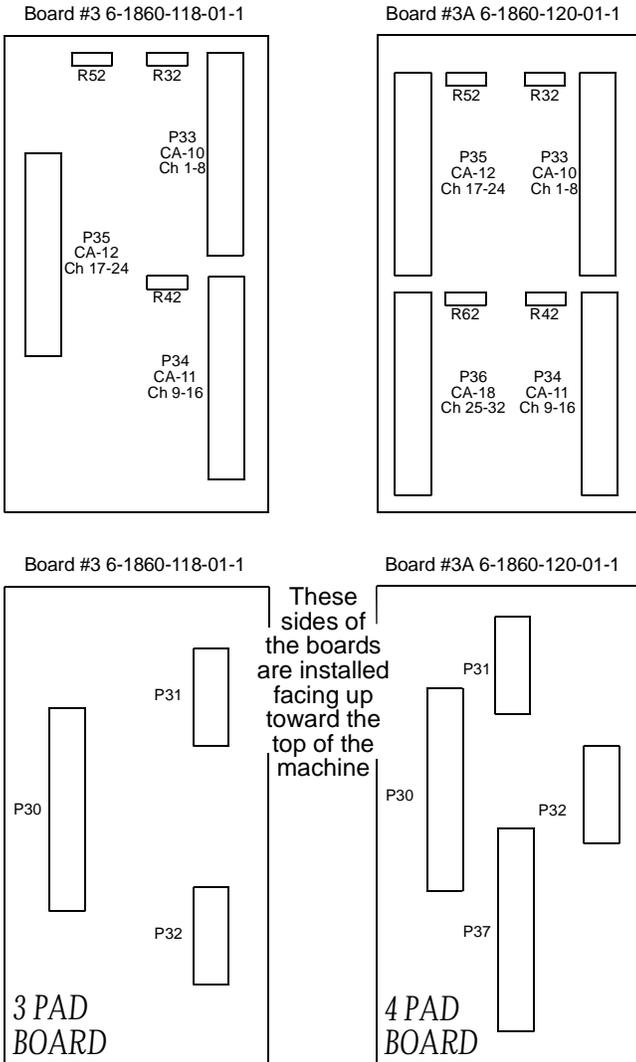

Figure 143: Location of Components and Adjustments
The thermocouples are processed through a sensor coprocessor board (Sensoray 7421). Depending on the OmniFlo™ System in operation, the board is either P/N 6-1860-118-01-1 or P/N 6-1860-120-01-1. There are three (3) visible pads on the 6-1860-118-01-1 board and four (4) visible pads on the 6-1860-120-01-1 board. For ease of reference in the adjustment procedure, the boards are referred to as "three pad" and "four pad" respectively. Refer to Figure 143.
Access the bottom side of the board through the computer cabinet by opening the rear doors at the Load End of the machine. The potentiometers that require adjustment are on the bottom side of the interface board. (The interface board is mounted on the cabinet’s ceiling.) Refer to Figure 143 and 147 to note the location of the pots on the board.